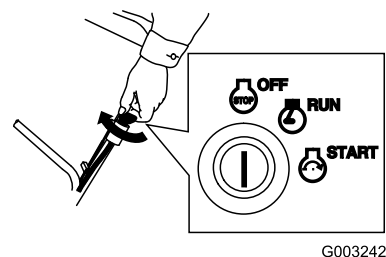

Figure 19
1. Turn the key to the Off position (Figure 19).